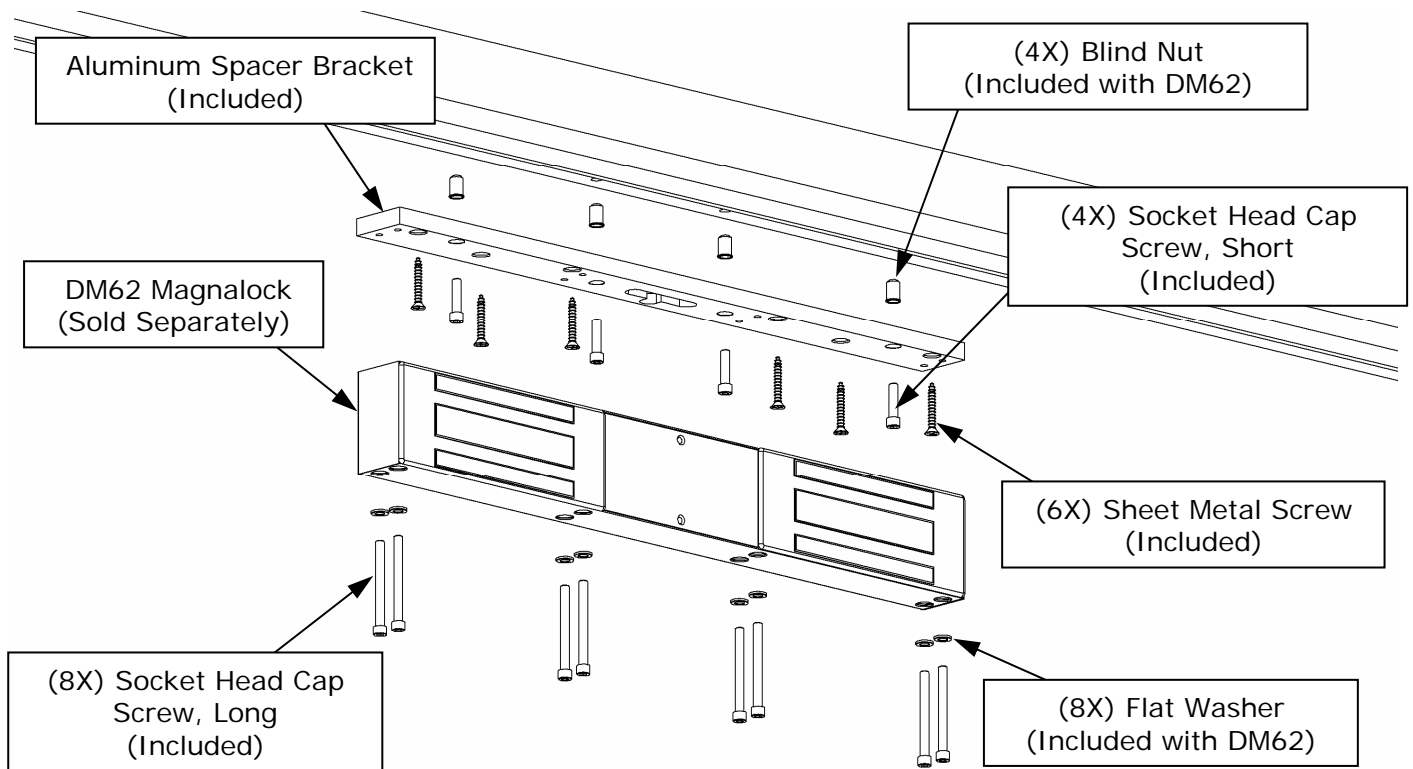

Figure 3
Mounting the spacer bracket onto an aluminum frame header requires use of the four (4) blind nuts, the four (4) socket head cap screws and the six (6) sheet metal screws provided. Proper use of the blind nuts and the additional sheet metal screws ensure a safe and secure mounting of the Magnalock reducing the possibility of the Magnalock becoming loose during regular use. **Figure 3** illustrates a visual concept of the parts that will secure the bracket for the Magnalock installation.